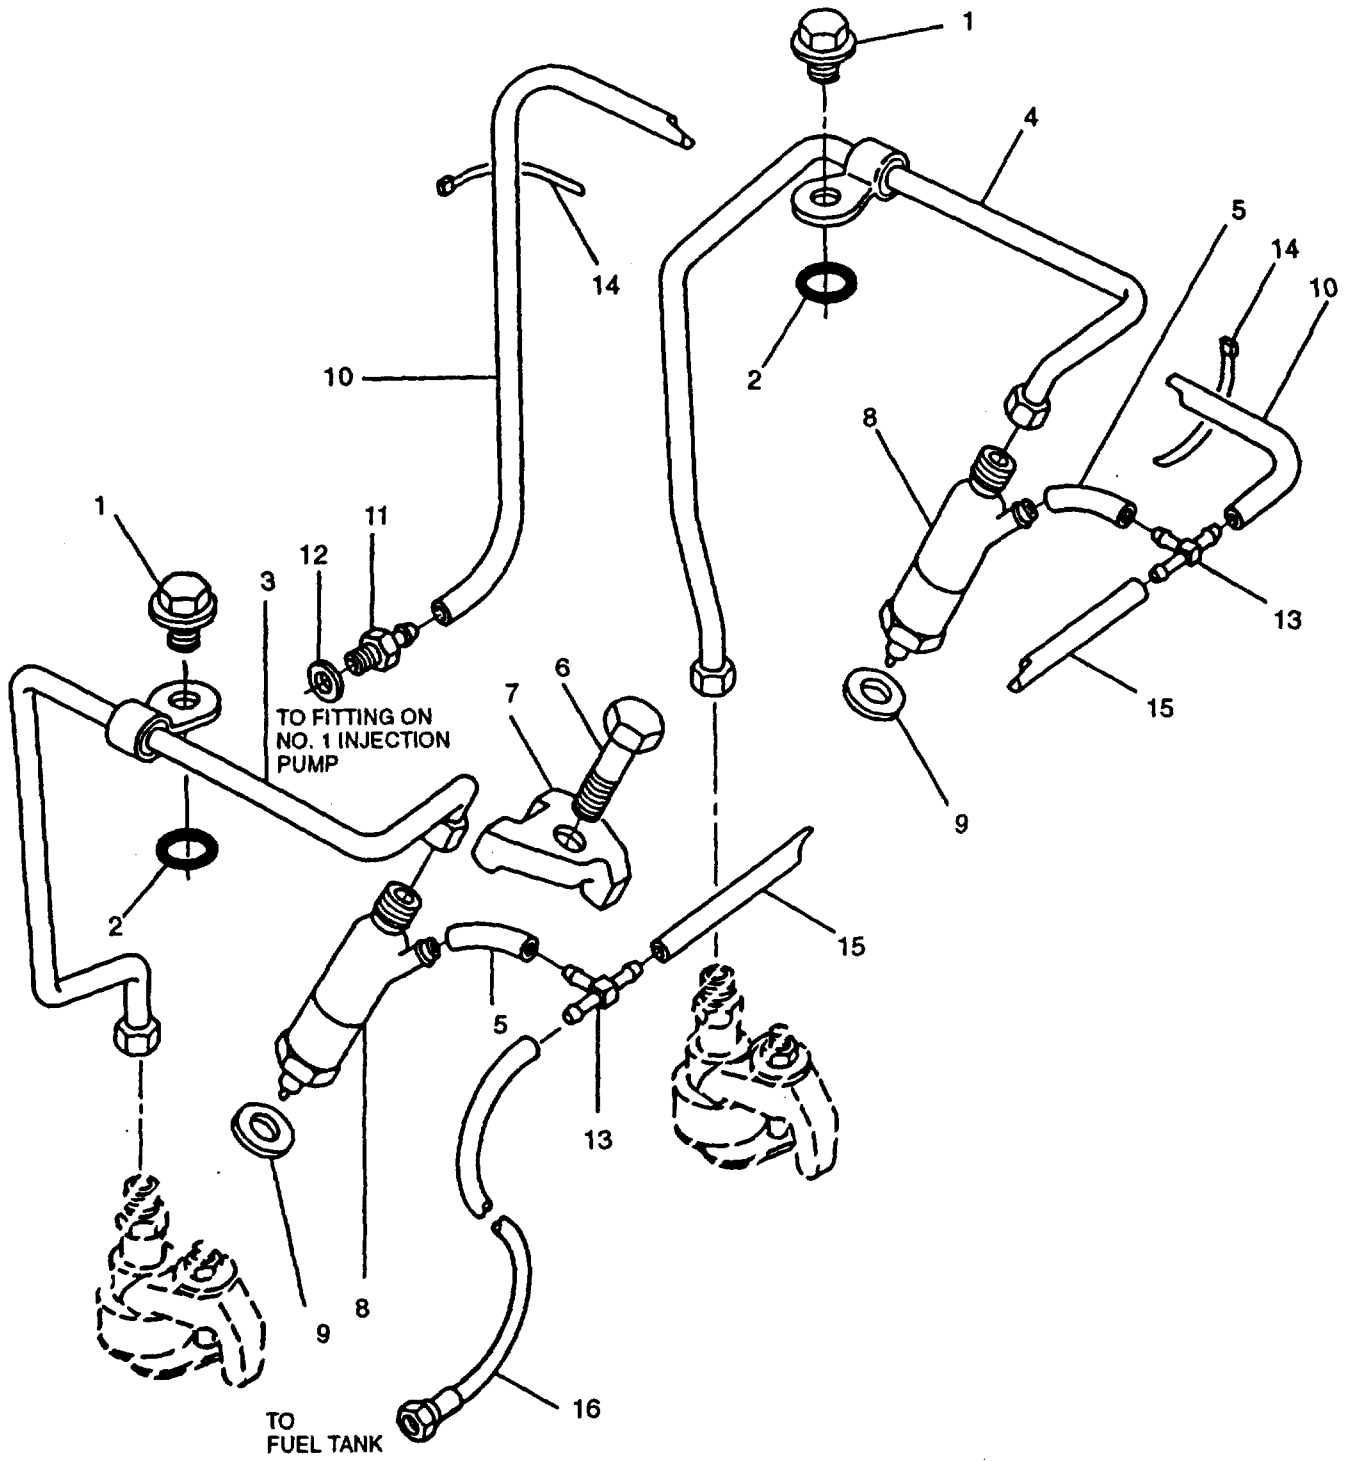

FIGURE 3-13. Fuel Injectors, Fuel Injector Pipes, and Fuel Return Line
- a. Disconnect and remove fuel injector pipe 3-3. or 4, FIGURE 3-13), refer to paragraph 3-18.1
- b. Disconnect fuel return hose (5) from injector (8).
- c. Remove bolt (6) securing clamp (7); remove clamp.
- d. Remove fuel injector (8) from cylinder head.
- e. Remove injector copper sealing washer (9) from cylinder head taking care not to damage seating area.
If injector sealing washer (9, FIGURE 3-13) has been used more than once it will become compressed and may adversely affect combustion. It is recommended that new injector sealing washers are installed on assembly. Ensure that two washers are not installed to an injector.
- a. Disconnect hose (10, FIGURE 3-13) from union (11).
- b. Remove union (11) and washer (12) from end of fuel supply hose.
- c. Disconnect hose (10) from tee fitting (13). Remove tiedown straps (14) and remove hose (10). Discard tiedown straps.
- d. Remove two hoses (5) from fuel injectors (8) and tee fittings (13).
- e. Remove tee fittings (13) from hose (15); remove hose (15).
- f. Disconnect hose (16) from tee fitting (13); remove hose (16).
- g. Loosen nuts on fuel injector pipes (3 and 4) at fuel injection pump and fuel injector (8).
- h. Remove cylinder head cover nuts (1) securing fuel injector pipes (3 and 4) clips; remove pipes (3 and 4). If damaged, replace preformed packing (2).
- b. Connect fuel injector pipes (3 and 4, FIGURE 3-13) to fuel injectors (8) and fuel injection pumps. Tighten nuts finger tight.
- c. Secure fuel injector pipe clips using cylinder head cover nuts (1). Tighten nuts to 78 in-lbs (8.8 Nm).
- d. Starting at fuel injector (8), tighten fuel injector pipes (3 and 4) nuts to 21.0 ft-lbs (28.5 Nm).
- e. Install tee fitting (13) into hose (16).
- f. Install tee fittings (13) in hose (15).
- g. Connect hoses (5) to tee fittings (13) and to fuel injectors (8).
- h. Connect hose (10) to tee fitting (13) and secure hose (10) with new tiedown straps (14).
- i. Install union (11) and washer (12) to end of fuel supply hose.
- j. Connect hose (10) to union (11).